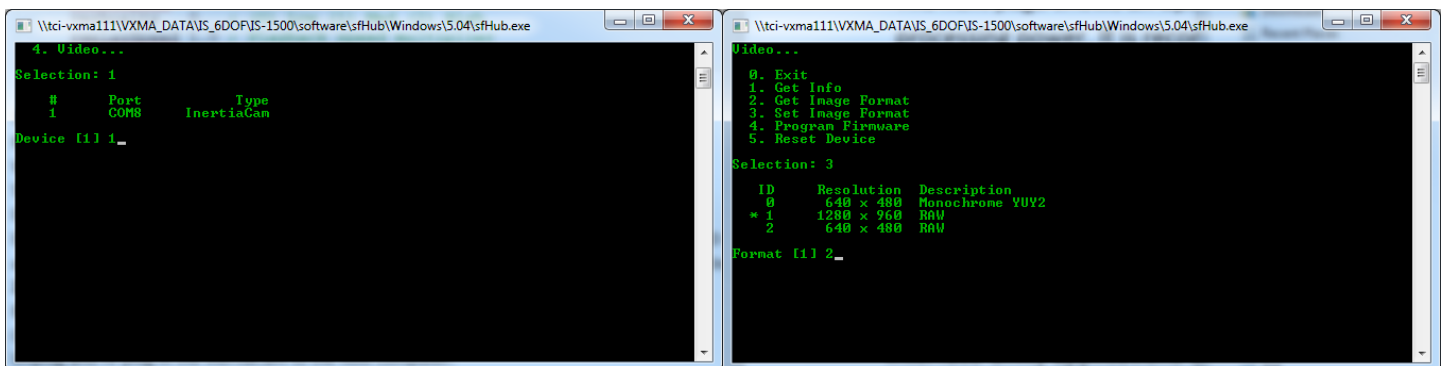

Figure 36 – Setting InertiaCam Image Resolution
9. Enter **1** to set the InertiaCam to use 1280x960 resolution, or enter **2** to use the default 640x480 resolution. The line with the asterisk and the number in brackets indicate the current setting. In **Figure 36**, the current setting is 1280x960, and entering **2** will change it to 640x480 resolution.